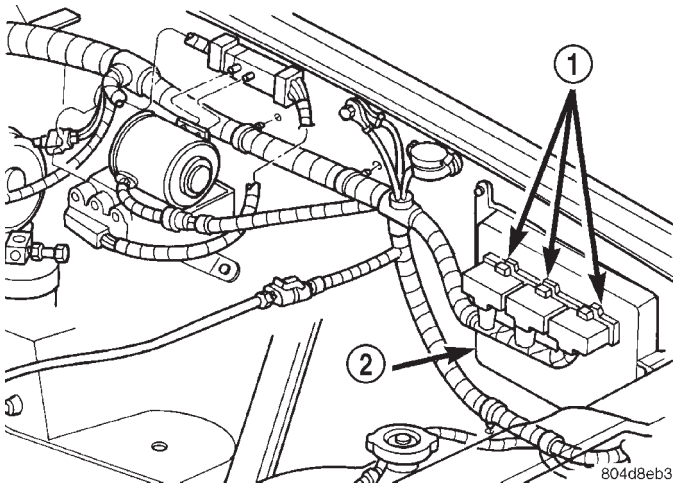

Fig. 3 Powertrain Control Module (PCM)
(1) Verify the three 32-way electrical connectors are fully inserted into the connector of the Powertrain Control Module (PCM) (Fig. 3).